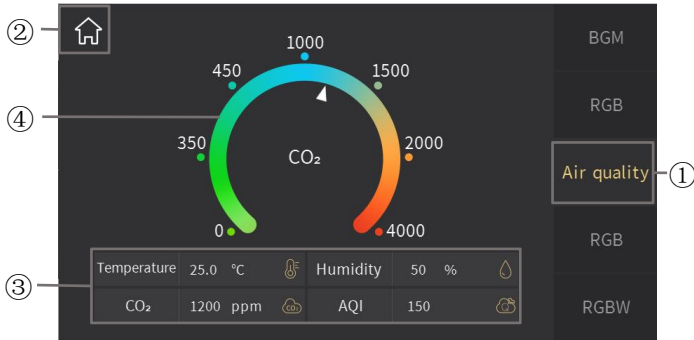
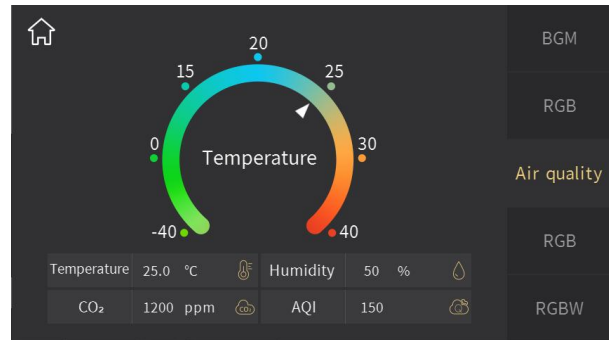
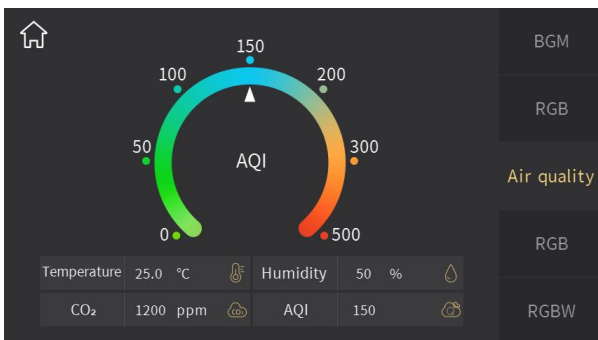
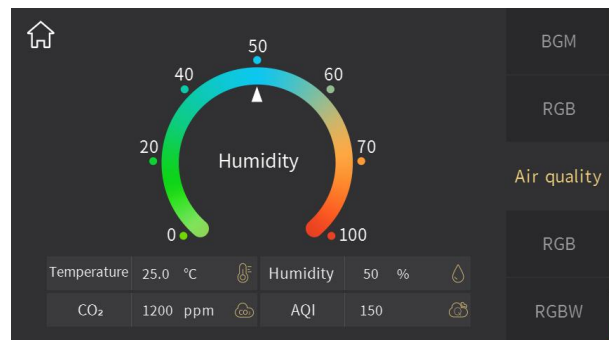

Fig.2.9.1
Fig.2.9.2
Fig.2.9.3
Fig.2.9.4
④ This ring strip is used for displaying the air quality parameter value;
Touch one of the items in the display list at the bottom of the interface, the pointer on the ring strip④ will point to the corresponding scale, such as Fig.2.9.1 above is the display effect of CO₂, Fig.2.9.2 is the display effect of temperature, Fig.2.9.3 is the display effect of AQI and Fig.2.9.4 is the display effect of humidity.